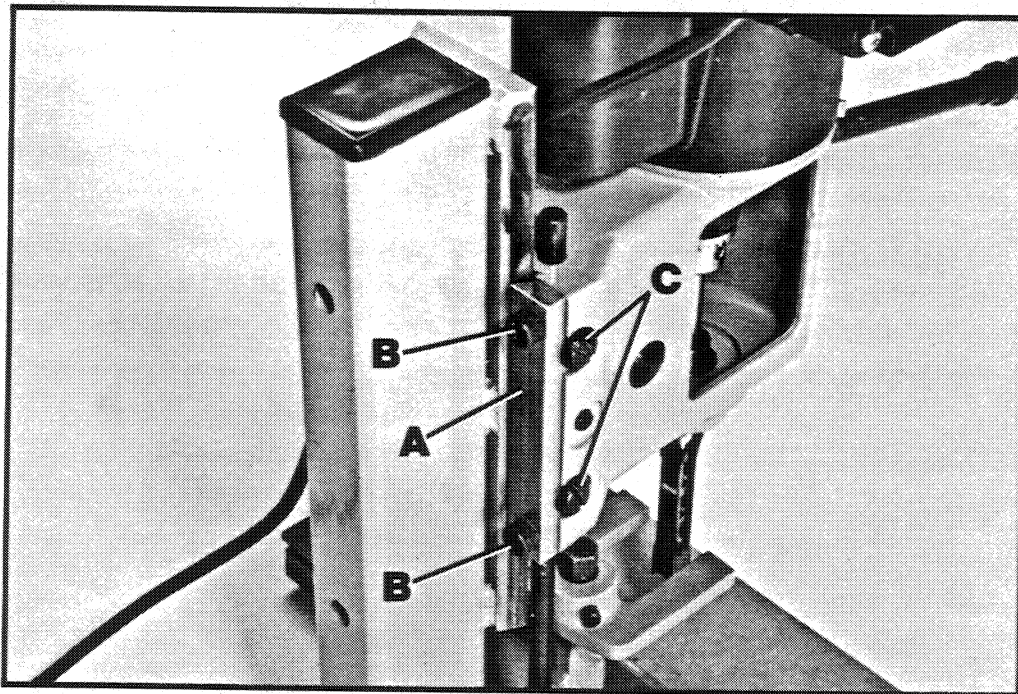

Fig. 25
A dovetail gib (A) Fig. 25, is provided on the rear of the head to insure a good sliding fit between the head and the column when the head is raised and lowered. Adjustment is made by loosening the two screws (B) and turning adjusting screws (C). Then tighten two screws (B). **NOTE:** Correct adjustment is when a good snug sliding fit is obtained without any side movement between the gib and the column. This adjustment should not be too tight that it restricts the sliding movement or too loose that it affects accuracy.